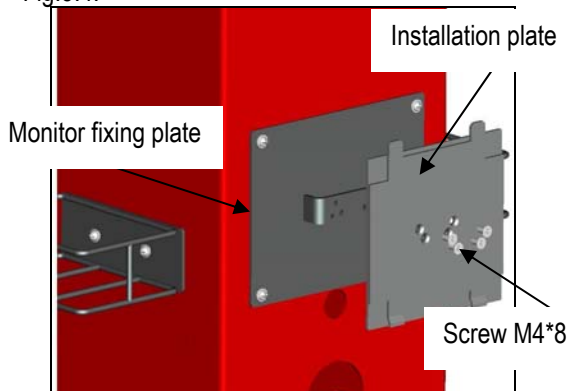

Fig 5.4
- Remove the installation plate from monitor bracket (The installation plate itself is equipped with 4 cross recessed countersunk head screws M4\*8). Install the plate on the monitor fixing plate mounted on the front middle end surface of the post as shown in Fig.5.4.